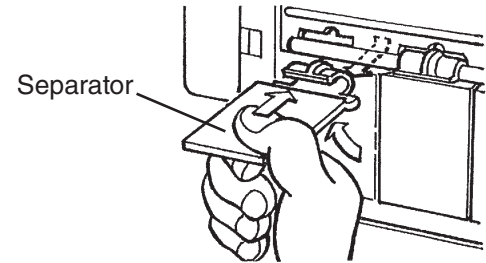

Fig. 37
3. Remove each separator by lifting it to the horizontal position and pushing it hard inward. See Fig. 37.